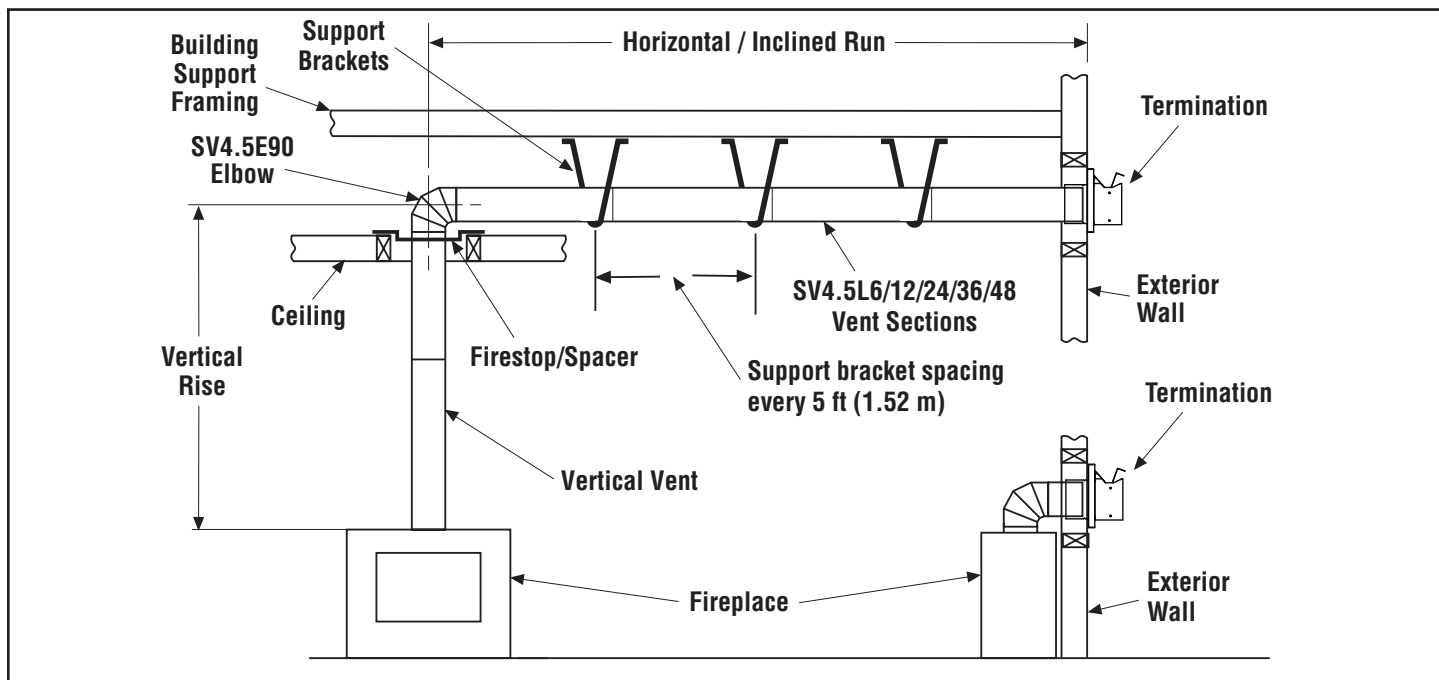

Figure 8 - Typical Horizontal Vent Installation
- 7. Support fireplace vent outlet with field provided support straps (Plumber's tape)**—Attach the straps to the vent pipe and secure to the framing members with nails or screws (Figure 8).
- 9. Continue installation of horizontal/inclined sections—** Continue with the installation of the straight vent sections in horizontal/inclined run. Install support straps every 5 ft. (1.52 m) along horizontal/inclined vent runs using conventional plumber's tape (Figure 8, page 14). Maintain the horizontal/inclined run in a straight (no dips), slightly elevated plane. The recommended incline is approximately 1/4" per 1 ft (20 mm per 1 m) horizontal, in a direction away from the fireplace. Smaller rise per foot run ratios are acceptable all the way to at or near level. Use a carpenter's level to measure from a constant surface and adjust the support straps as necessary. Maintain the required clearances to combustibles (Page 9).